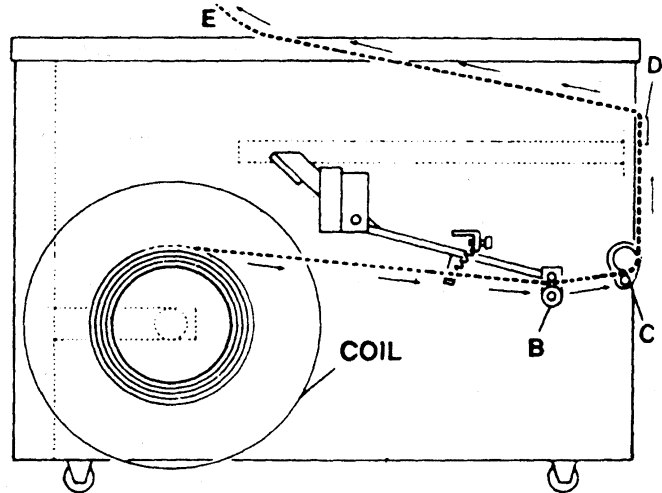

FIGURE 11. STRAP THREADING DIAGRAM
4. Place a coil of strap on the left flange allowing the shaft to poke through the plastic wrap. Pay-off must be from the top of the coil if the friction brake is to operate properly, as shown in Figure 11.
The threading procedure involves routing strap from the dispenser and up through the strapping head. Refer to Figure 11 and proceed as follows: